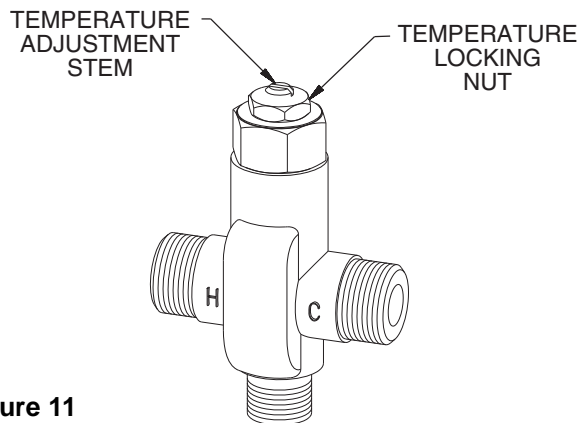

Figure 11
- Using a blade screwdriver, turn the adjustment stem **counterclockwise** to **increase** the temperature or **clockwise** to **decrease** the temperature (Figure 11).